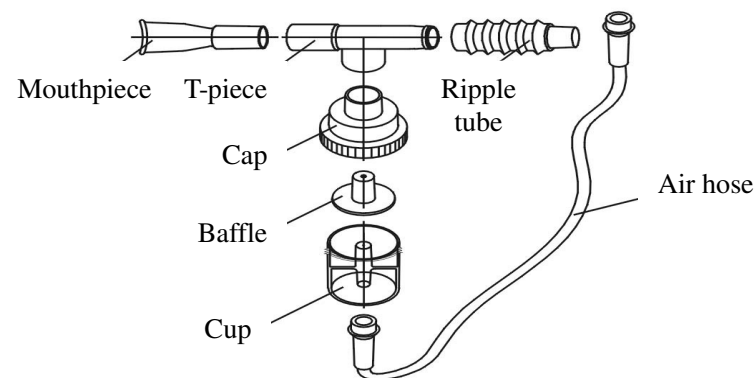

Figure 6
- After finishing washing you must dry all the accessories before storing. (Nebulizing installment is shown in figure 6).